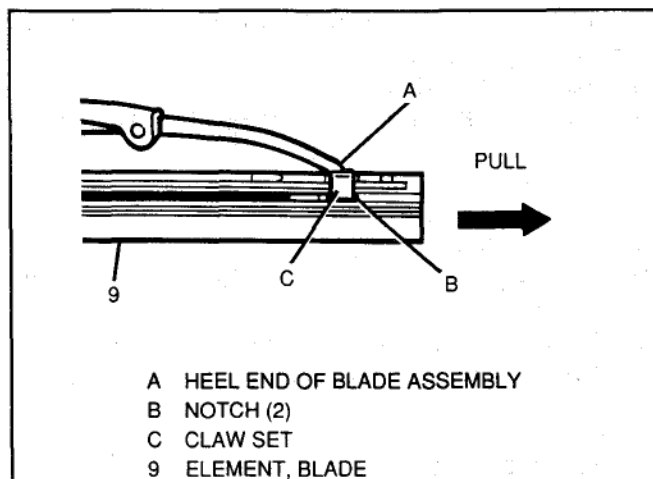

Figure 14 – Wiper Blade Element Removal
Figures 14 and 15
2. Blade element (9, Figure 14) has two notches at one end which are engaged by the bottom claw set of blade assembly. At notched end, pull blade element from blade assembly.